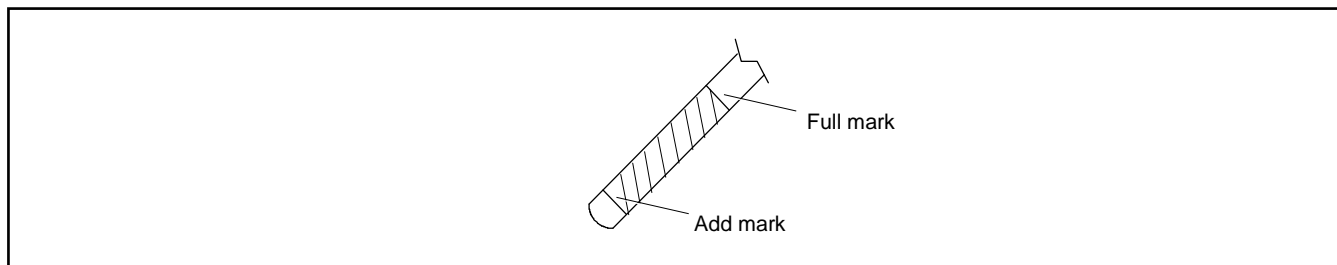

Figure 22 Oil Dipstick
5. Pull out the dipstick again to check the oil level. The oil level should be maintained between the Full and Add marks. See Figure 22.